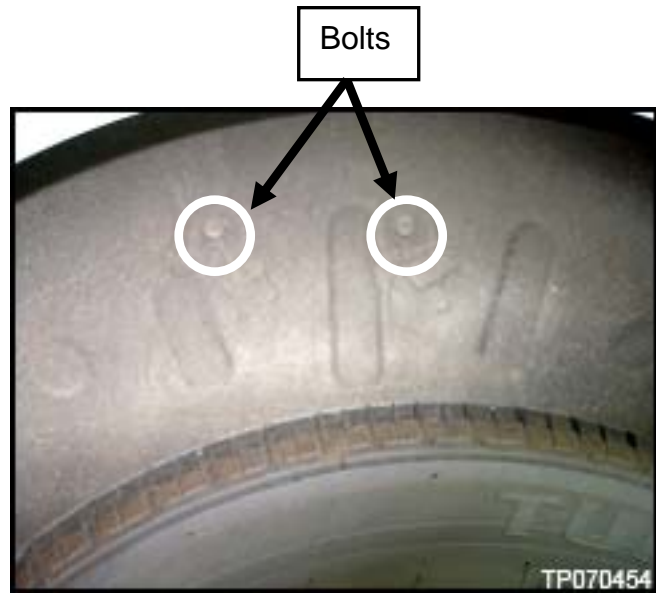

Figure 1
1. Using a gasket scraper or similar tool, remove the wheel housing unit undercoat off of the two (2) bolt heads (see Figure 1).